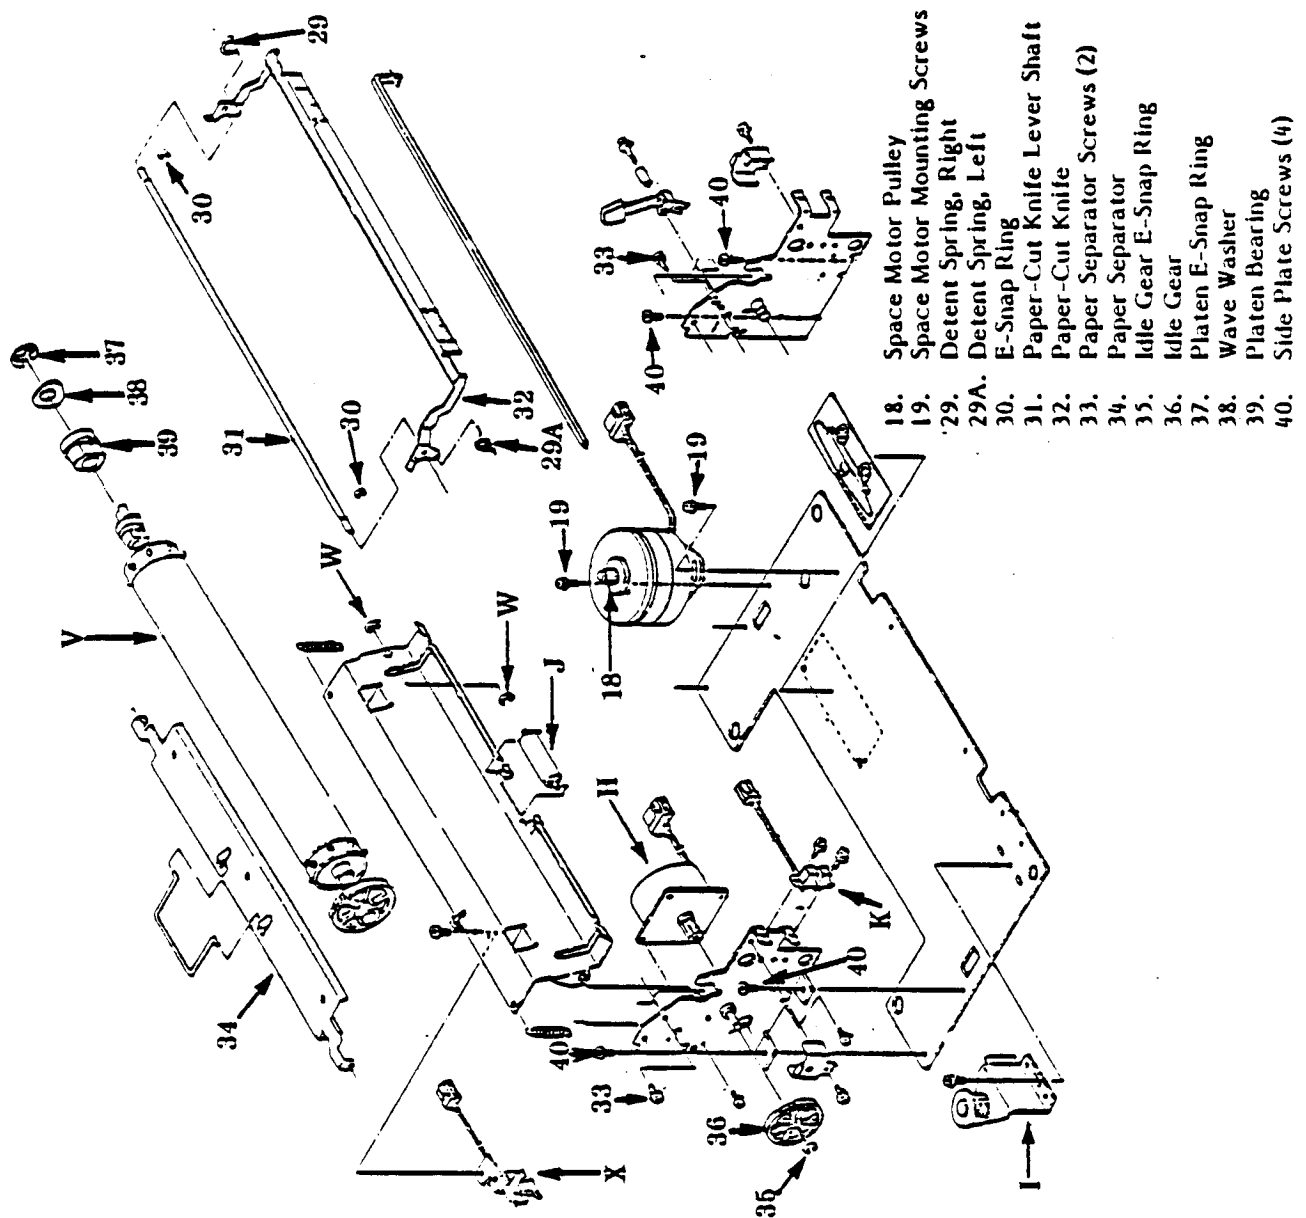

Figure 4-4. Base Unit Assembly (T)
- Remove the detent springs (Figure 4-4, #29 and 29A)
- Remove the E-snap rings (Figure 4-4, #30), pull the paper-cut knife lever shaft (Figure 4-4, #31) out of the side plate and remove the paper-cut knife (Figure 4-4, #32).
- Remove the paper separator screws (Figure 4-4, #33) and the paper separator (#34).
- Remove the idle gear E-snap ring (Figure 4-4, #35) and then the idle gear (Figure 4-4, #36).
- Pull the right platen bearing assembly off horizontally (Figure 4-4, #37-39). Turn the platen 90° and remove it by lifting it straight up.
- Replace the platen bearing assembly (Figure 4-4, #37-39).
- Replace the idle gear and its E-snap ring (Figure 4-4, #35,36).
- Attach the paper separator with its two screws (Figure 4-4, #33,34).
- Attach the paper-cut knife and its lever by inserting the lever shaft through the side plates and affixing the E-snap rings (Figure 4-4, #30-32).
- Replace the two detent springs (Figure 4-4, #29 and 29A).
- Loosen the paper separator screws (Figure 4-4, #33)
- Insert and tighten the four side plate screws (Figure 4-4, #40) to the bottom metal plate.